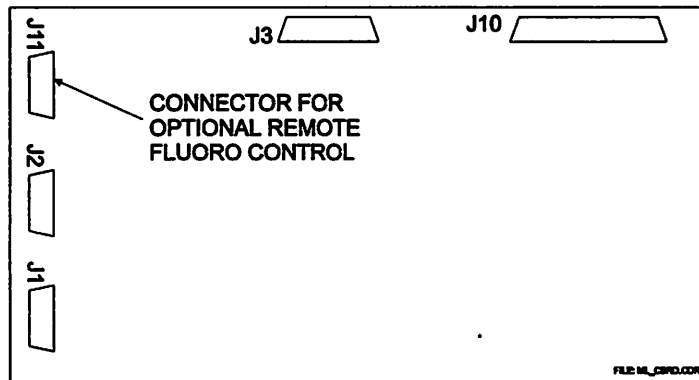

Figure 2-11: Remote fluoro connector on generator CPU board
1. Connect the free end of the 9 conductor remote fluoro cable (from the optional remote fluoro control box) to J11 of the generator CPU board. Ensure that the screw locks are fully tightened to secure the connector. Refer to figure 2-11 for the location of J11 on the generator interface board. Refer to 2.18.0 regarding excess cabling.